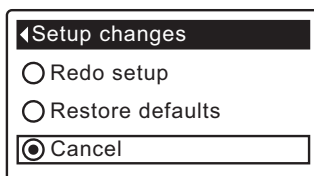

FIG. 27
1. From any of the rolling status screens, press the SELECT (O) button to display the **Main menu**.
3. Press the SELECT (O) button to display the Advanced settings menu.
5. Press the SELECT (O) button to display the Troubleshooting menu.
7. Press the SELECT (O) button to display the Setup changes menu (See Figure 27).
8. Press the RIGHT (►) button. The flashing padlock icon will disappear, as shown in Figure 27.
9. Press the SELECT (O) button.